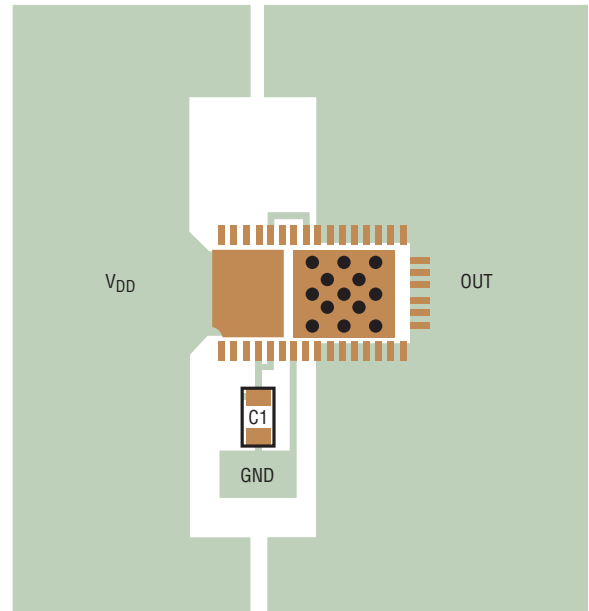
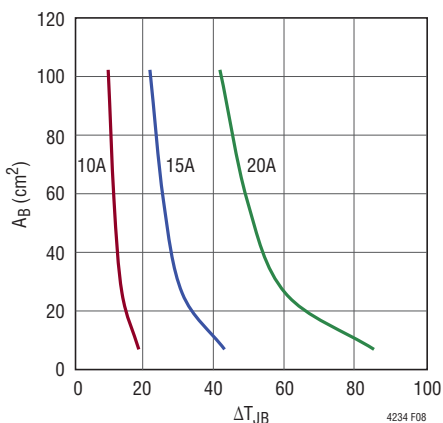
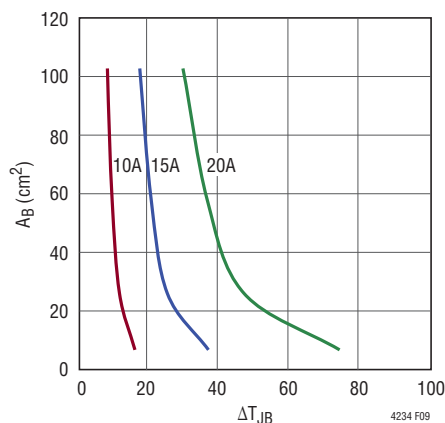

Figure 7. Recommended Layout
Figure 8. Temperature Rise for Small SENSE Pad
Figure 9. Temperature Rise for Large SENSE Pad
The input supply should be tied to  $V_{\text{DD}}$  exposed pad through a PCB trace that enters between Pin 1 and Pin 38. The  $V_{\text{DD}}$  pad connects to the sense resistor and MOSFET. The two  $V_{\text{DD}}$  (NC) Pins (6, 33) on opposite sides of the package are used for testing purposes only and should be left unconnected. Likewise the two SENSE Pins (8, 31) on opposite sides are used for testing and for driving the SENSE- pin (connect Pin 34 to Pin 31). Figure 7 shows a recommended layout for the LTC4234.
The LTC4234 junction temperature rise in still air when the load current is 10A, 15A and 20A is shown in curves of Figure 8 and Figure 9. This temperature rise falls as the board area is increases from 6.45cm2 to 103cm2. Two different SENSE pad areas are shown as separate figures.
This thermal test board uses 2oz copper on the top layer divided equally between VDD and OUT traces similar to Figure 7. The second layer is 1oz copper connected to the vias to the SENSE pad on the top layer. Two versions of the second layer are considered. One uses a minimum sized SENSE pad that only covers the vias for the top layer while the remainder of the second layer is empty (see Figure 8). The other version fills the second layer with SENSE connected copper (see Figure 9). The third layer is 1oz copper tied to ground while the bottom layer is 2oz copper tied to ground except for a few signal traces.